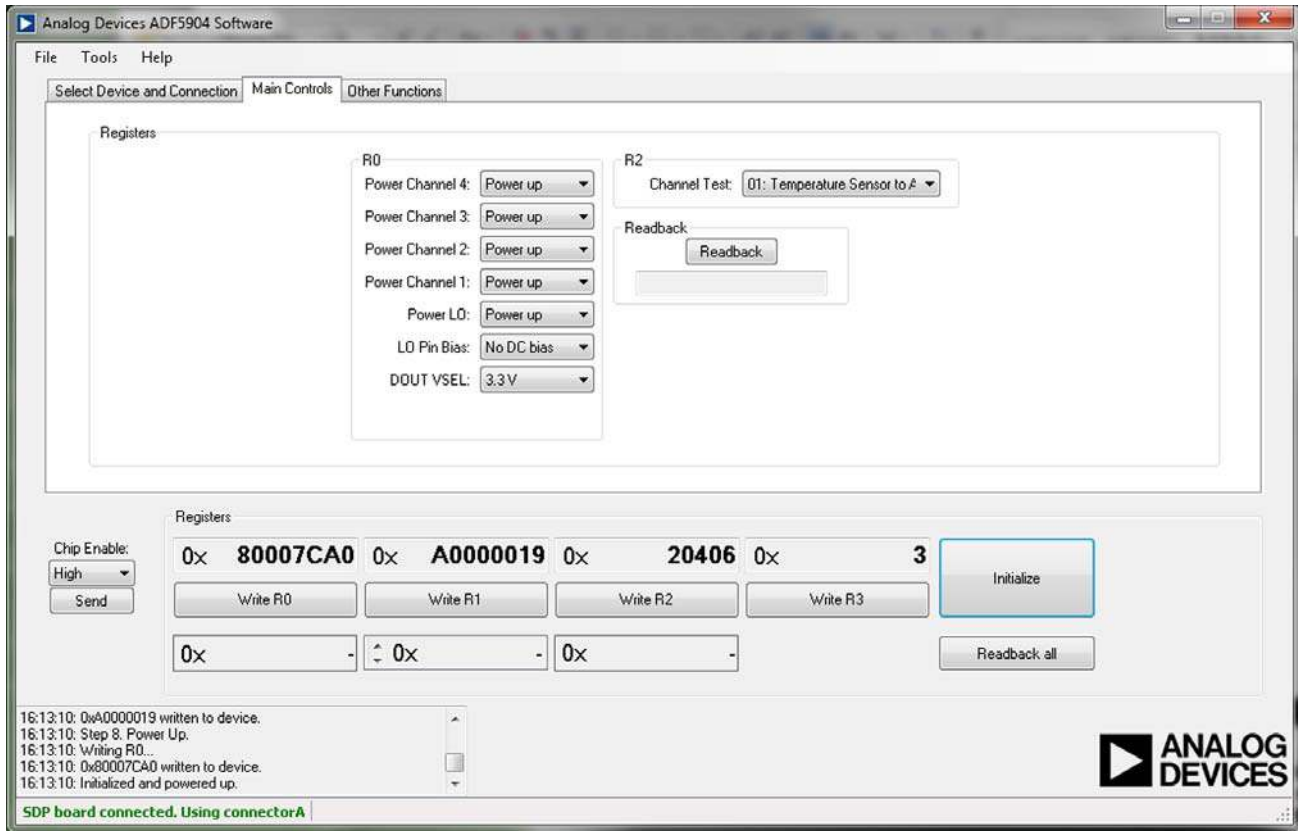
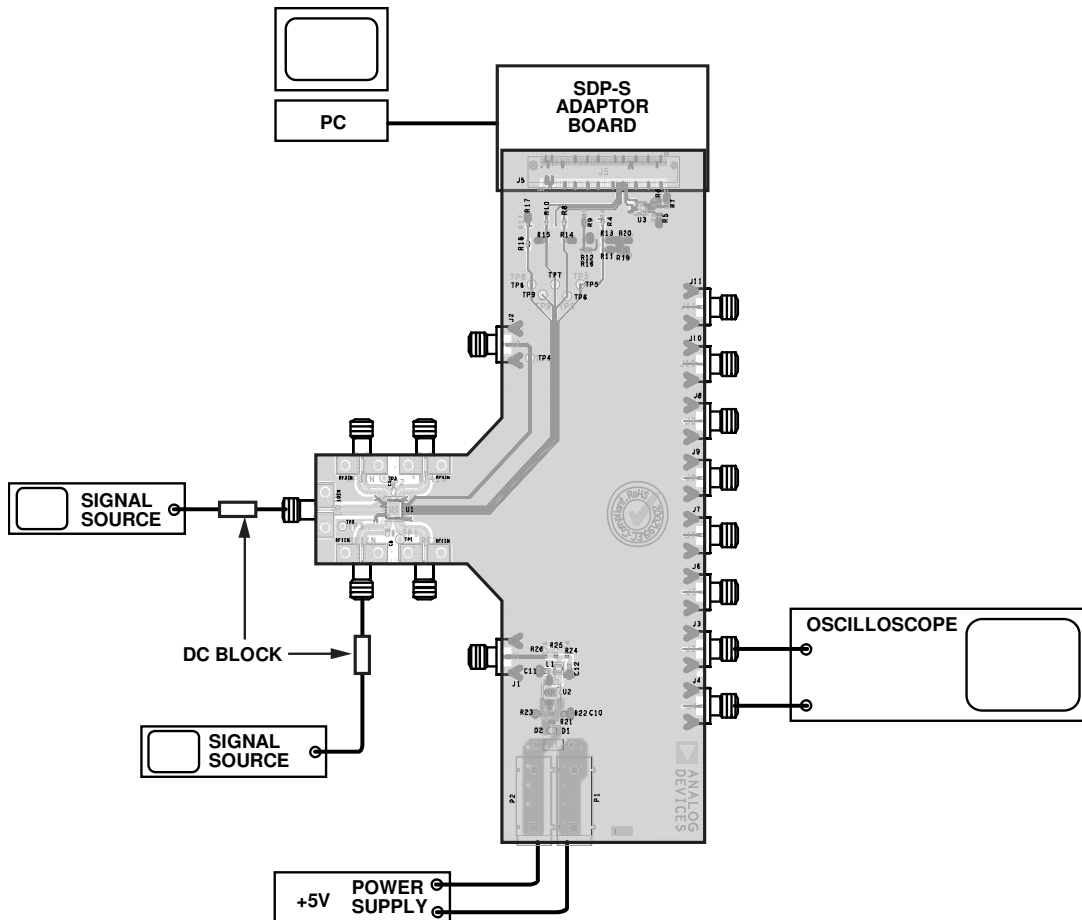

Figure 3. Software Front Panel Display—Main Controls
Figure 4. Typical Evaluation Setup
The **Main Controls** tab controls the ADF5904 device settings (see Figure 3).
9. In the **Main Controls** tab, click **Initialize** to power up the ADF5904 (see Figure 3). See Figure 4 for the suggested setup.